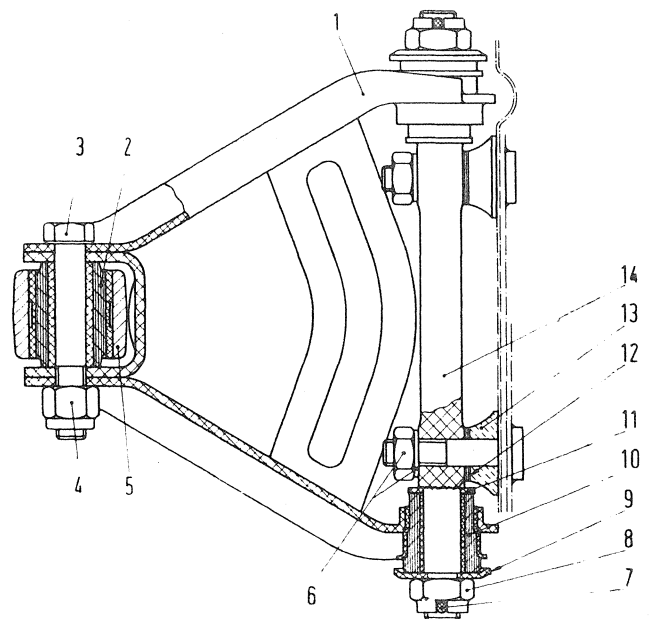

Fig. 265 - Partial schematic section of swinging arm.
« Flanblock » rubber bushes are press-fitted in the arms for the attachment of swinging arm pin to body (fig. 265).
- Remove cotter pins (7, fig. 265) and unscrew two nuts (8) securing pin (14) anchoring swinging arm to body.
- Remove cups (9) and withdraw rubber bushes (10) using all purpose puller A. 40005/V. Remove pin (14) with washers (11).
The above check may be performed also on the swinging arm assembly inserting the holes of pin (14, fig. 265) on the fixture pins.